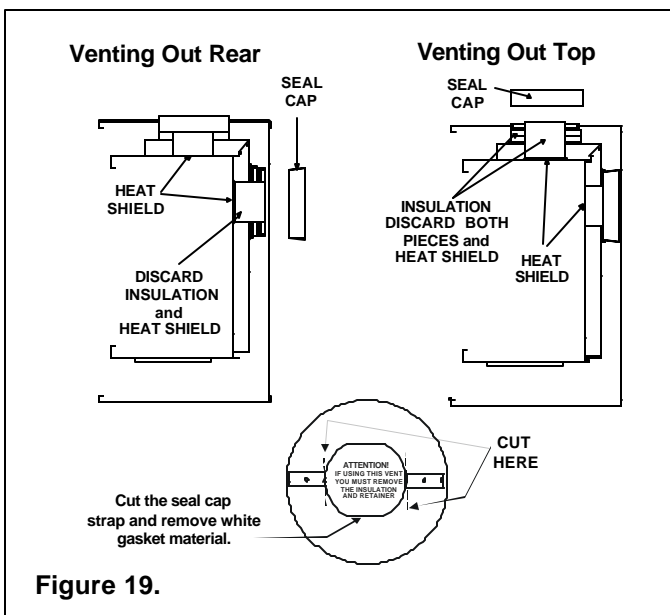

Figure 19.
Remove the installed rear seal cap from the rear starting collars by cutting the strap at each end. (see Figure 19). Follow the vent configuration tables accordingly.
**WARNING: THE TOP HEAT SHIELD (INSIDE THE FIREBOX) MUST REMAIN ATTACHED IF THE VENT SYSTEM IS ATTACHED TO THE REAR STARTING COLLARS. SEE FIGURE 19.**
Remove the two screws in the top vent collar seal cap and remove the top vent collar seal cap and two pieces of insulation inside the top two starting collars (See Figure 19).